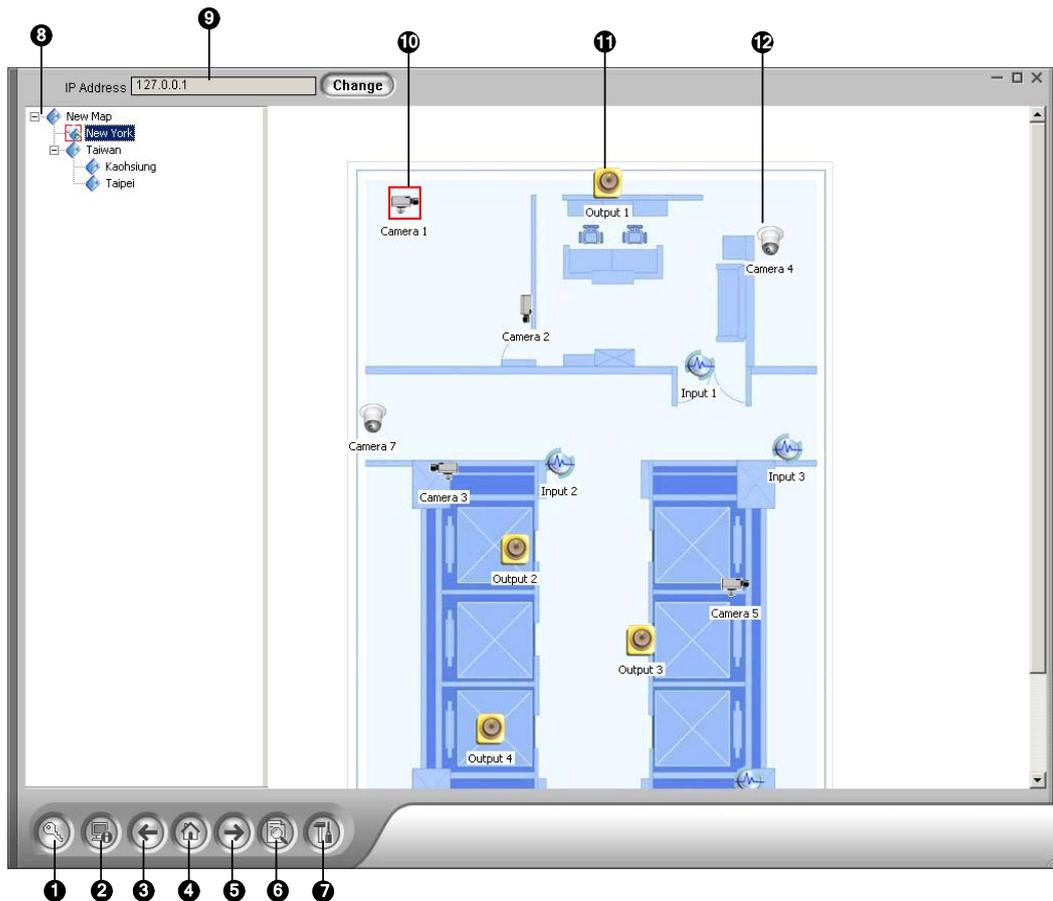

Figure 9-5 The Remote E-Map Window
When the client PC connects to the WebCam server, all the E-Maps saved in the local server will be downloaded to the client PC, with the E-Map files of 500 hosts at most. The E-Maps created for remote hosts can only function on WebCam after you log in these hosts. You can login 500 hosts at a time. Click the **Login** button (No. 1, Figure 9-5) to display the following Login window.
Click the **Configure** button (No. 7, Figure 9-5) to display the following dialog box:
The Host Information window lists the triggered events of cameras and I/O devices. Click the **Host Information** button (No. 2, Figure 9-5) to open it.
On the Remote E-Map window, the **ViewLog** button (No.6, Figure 9-5) is designed for the Remote ViewLog function, giving you remote access to the recorded files of DVR and playing back video by the player ViewLog.
4. Click the **Login** button (No.1, Figure 9-5) to select the desired host(s) to access videos and I/O devices.